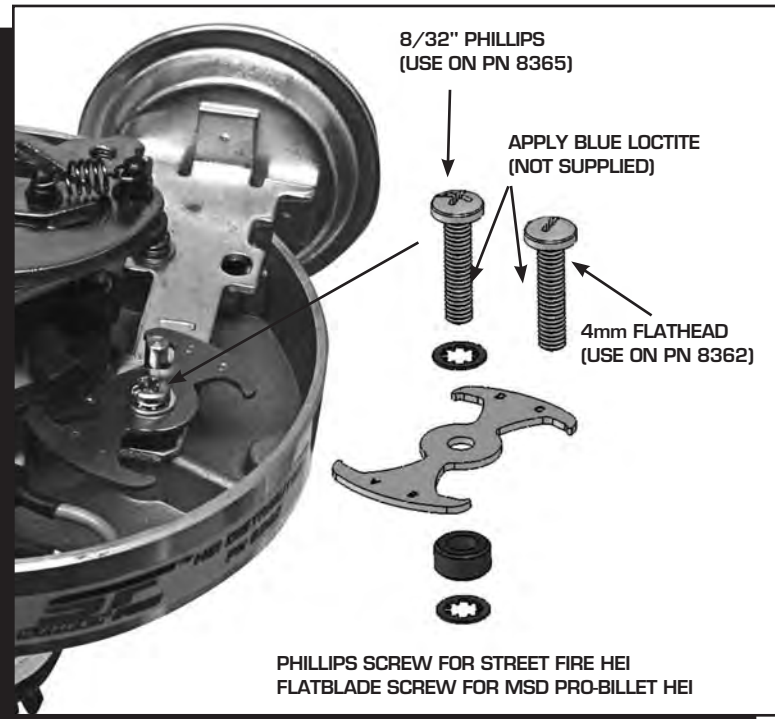

Figure 2 Installation.
4. Position the Stop Plate with the desired stop amount against the canister rod (Figure 2). Position the plate as shown.